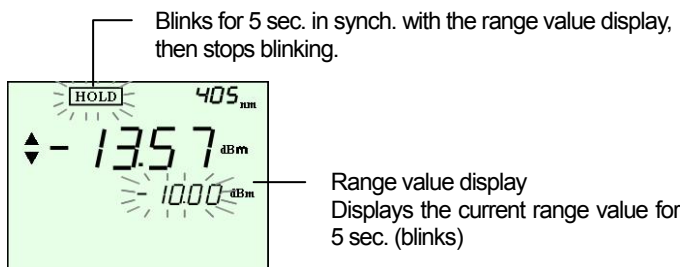

Figure 3-11 Example of the range value display during range hold
5. The range blinks for five seconds in the area shown in Figure 3-11, then the original screen returns (if REF is set, the REF value is displayed again).